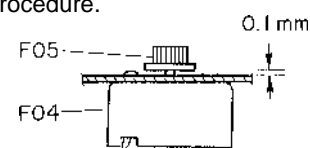

Fig. 1.8.6
- (2) Press fit a new F05 (First Gear) so that the gap between the chassis surface and the bottom of F05 (First Gear) is 0.1 mm as shown in Fig. 1.8.6.
- (3) Solder the wires of F04 (Sled Motor) to the Traverse P.C.B. Ass'y.
- (4) Reassemble other removed parts by reversing the removal procedure.